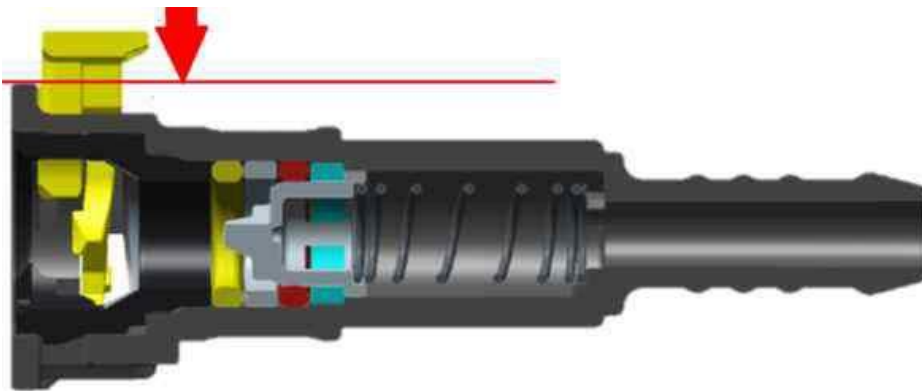

Figure 5
- Check and confirm the latch shown in Figure 5 is fully closed/located in the direction shown (Arrow)